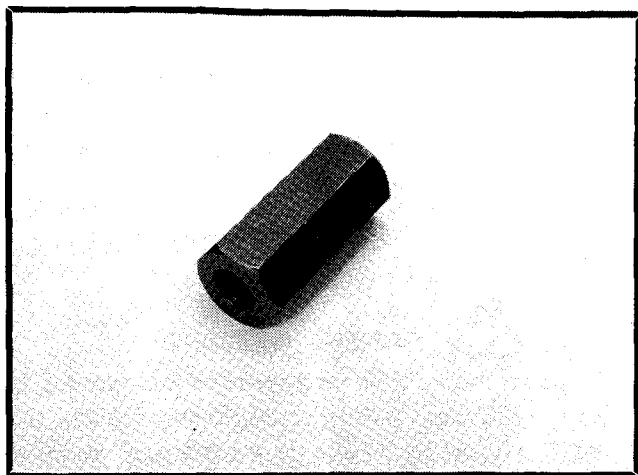

Figure 6.
2. Remove the cotter pin, axle nut and washer. Install a knockoff part number 809315. Hit the knock-off with a sharp blow with a heavy hammer to loosen the hub from the axle. See Figure 6.